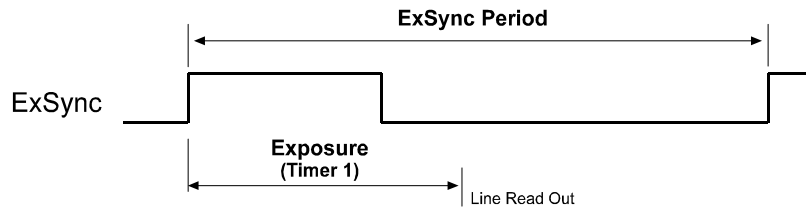

Figure 3-5: ExSync, Programmable Mode
- In **ExSync, programmable** mode, the rising edge of ExSync triggers exposure and charge accumulation for a pre-programmed period of time. The actual start of exposure is 0.385 μs later than the rise of the ExSync signal. The line is read out and transferred at the end of the pre-programmed period. The falling edge of ExSync is irrelevant (see Figure 3-5).